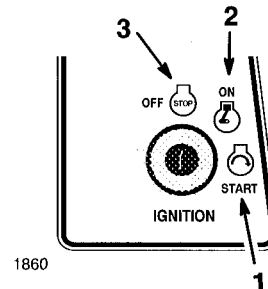

Figure 9
5. Turn the ignition key clockwise and hold it in the “START” position (Fig. 9). When the engine starts, release the key.
2. Turn the ignition key to “OFF” (Fig. 9).